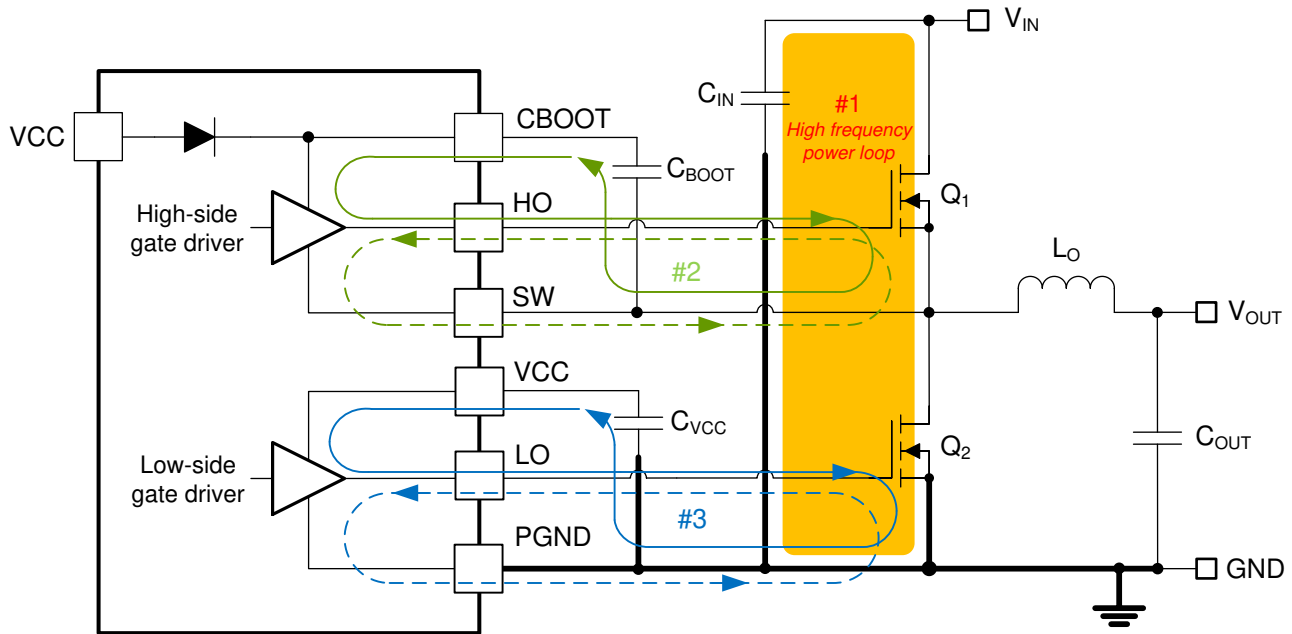

Figure 9-35. DC/DC Regulator Ground System With Power Stage and Gate Drive Circuit Switching Loops
Proper PCB design and layout is important in a high-current, fast-switching circuit (with high current and voltage slew rates) to achieve a robust and reliable design. As expected, certain issues must be considered before designing a PCB layout using the LM25148-Q1. The high-frequency power loop of a buck regulator power stage is denoted by loop 1 in the shaded area of Figure 9-35. The topological architecture of a buck regulator means that particularly high di/dt current flows in the components of loop 1, and it becomes mandatory to reduce the parasitic inductance of this loop by minimizing its effective loop area. Also important are the gate drive loops of the high-side and low-side MOSFETs, denoted by 2 and 3, respectively, in Figure 9-35.
- Loop 1: The most important loop area to minimize is the path from the input capacitor or capacitors through the high- and low-side MOSFETs, and back to the capacitor or capacitors through the ground connection. Connect the input capacitor or capacitors negative terminal close to the source of the low-side MOSFET (at ground). Similarly, connect the input capacitor or capacitors positive terminal close to the drain of the high-side MOSFET (at V_{IN}). Refer to loop 1 of Figure 9-35.
- The SW pin connects to the switch node of the power conversion stage and acts as the return path for the high-side gate driver. The parasitic inductance inherent to loop 1 in Figure 9-35 and the output capacitance (C_{OSS}) of both power MOSFETs form a resonant circuit that induces high frequency (greater than 50 MHz) ringing at the SW node. The voltage peak of this ringing, if not controlled, can be significantly higher than the input voltage. Make sure that the peak ringing amplitude does not exceed the absolute maximum rating limit for the SW pin. In many cases, a series resistor and capacitor snubber network connected from the SW node to GND damps the ringing and decreases the peak amplitude. Provide provisions for snubber network
- Loop 2: high-side MOSFET, Q_1 . During the high-side MOSFET turnon, high current flows from the bootstrap (boot) capacitor through the gate driver and high-side MOSFET, and back to the negative terminal of the boot capacitor through the SW connection. Conversely, to turn off the high-side MOSFET, high current flows from the gate of the high-side MOSFET through the gate driver and SW, and back to the source of the high-side MOSFET through the SW trace. Refer to loop 2 of Figure 9-35.
- Loop 3: low-side MOSFET, Q_2 . During the low-side MOSFET turnon, high current flows from the VCC decoupling capacitor through the gate driver and low-side MOSFET, and back to the negative terminal of the capacitor through ground. Conversely, to turn off the low-side MOSFET, high current flows from the gate of the low-side MOSFET through the gate driver and GND, and back to the source of the low-side MOSFET through ground. Refer to loop 3 of Figure 9-35.